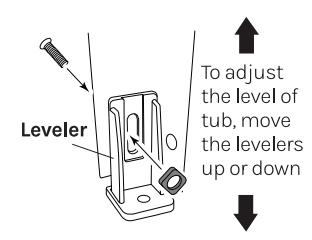

Fig. 3
- Mount leveler to each leg. Note that there are two holes in the bottom of the leg at different locations. Select the proper hole that will allow access to the screw head after the tub is in the desired location. Attach leveler with $\frac{1}{4}$ in. (0.63 cm.) bolt and nut and hand tighten it. **DO NOT** over-tighten it in this step (see Fig. 3).